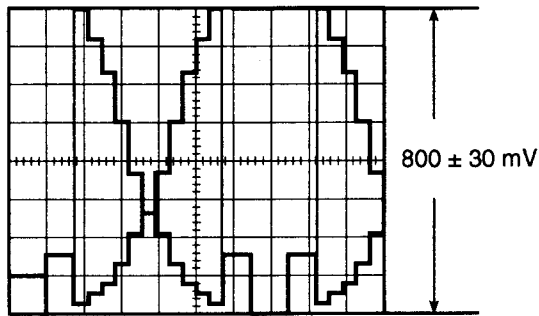

Fig. 5-18
- Adjust data with the **ARROW** keys so that Video signal level becomes 800 ± 30 mV as shown in Fig. 5-18.